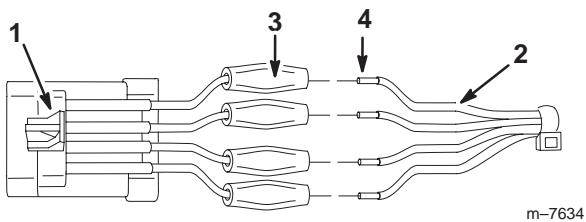

Figure 4
- Use a electrician's tool to strip 1/4 inch of the insulation on the wires from the cut ends (Fig. 4).
- Connect the crimping connections on the wires from the end of the male connector of the electric service module to the cut wires from the electrical harness (Fig. 4).
- Match the wires color for color and crimp the clear connectors to secure the module to the wiring harness (Fig. 4).